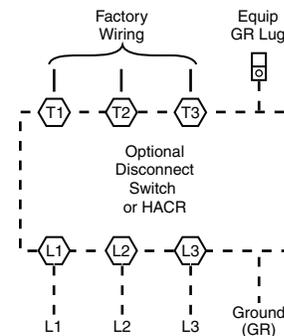

Fig. 47 — Power Wiring Connections
Size wire based on MCA (Minimum Circuit Amps) on the unit informative plate. See Fig. 47 for power wiring connections to the unit power terminal block and equipment ground. Maximum wire size is 2/0 AWG per pole.
3. Install power lines to terminal connections as shown in Fig. 47 on page 34.